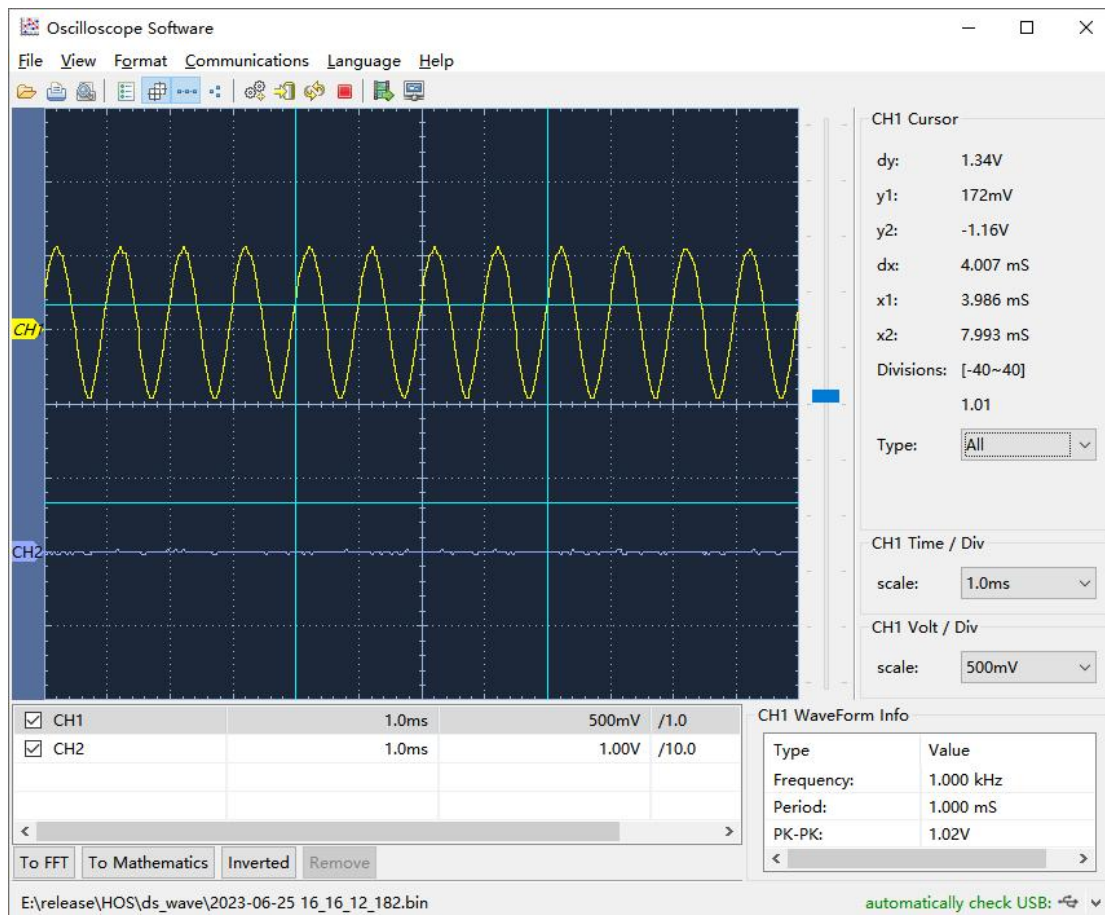

Fig 5-3
3. Operation in channel box (Fig 5-3)